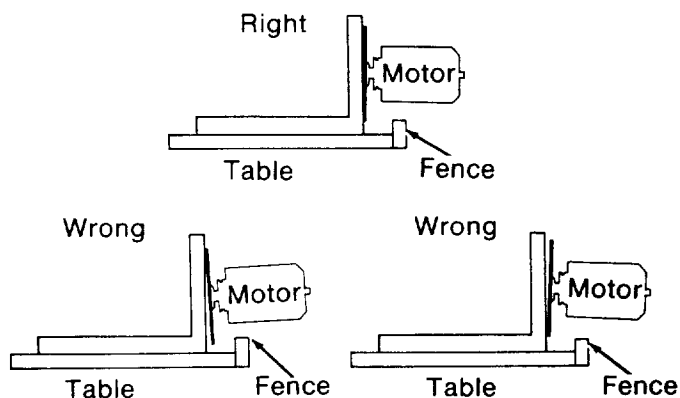

Fig. 81
5. If the square is flush with the *blade* after each rotation (Figure 81) go to step 11, or
If there is a gap between the square and the *blade* after any rotation (Figure 81), go to step 6.